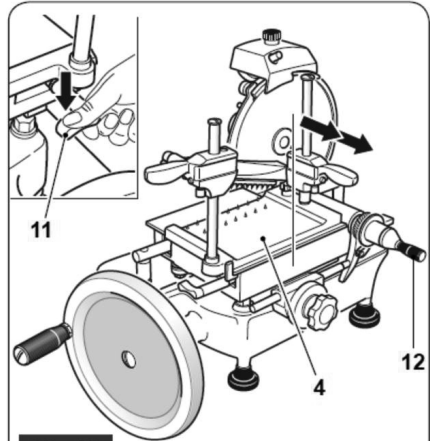

Fig. 13
- Reposition the blade guard (9) by tightening the knob (9a) (fig. 13).